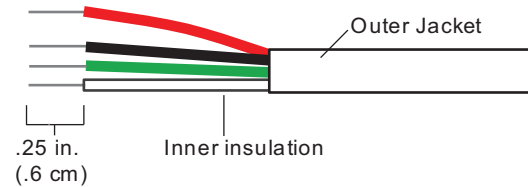

Fig. 5 — Installing ZS Sensor Cables
2. Partially cut, then bend and pull off the outer jacket of the Rnet cable(s). Do not nick the inner insulation. Strip about .25 in. (0.6 cm) of the inner insulation from each wire. See Fig. 5 sensor cable configuration example.
5. Strip about 0.25 in. (0.6 cm) insulation from the end of each wire. Refer to Fig. 5 for cable dimensions.